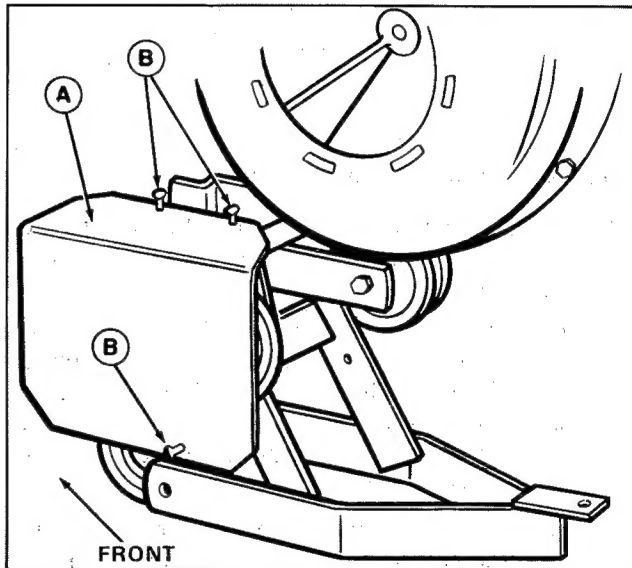
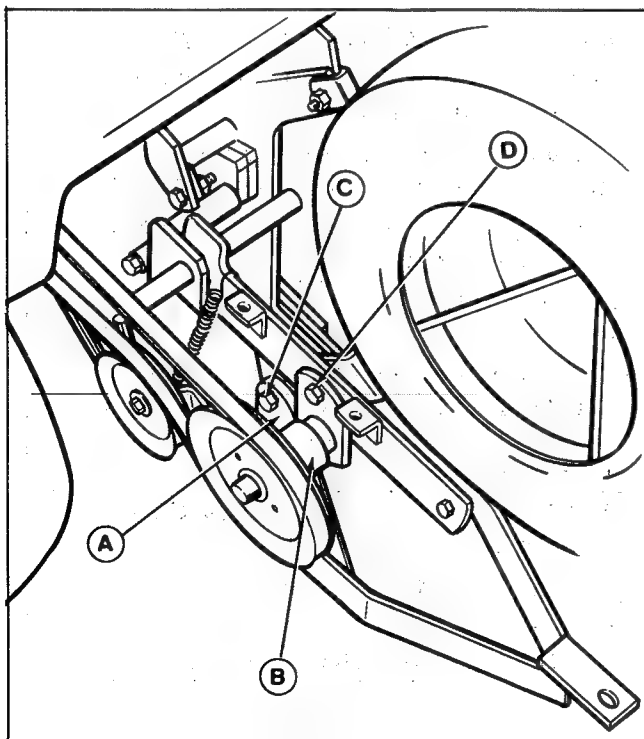
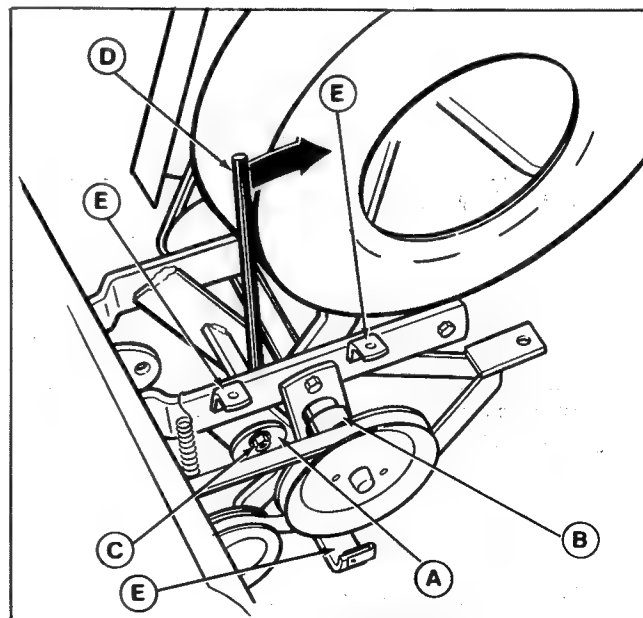

Figure 5. Shield Installed Left-Hand Side
Figure 11. Belt Adjustment
Figure 13. Moving Cross Shaft Back
3. Remove the shield (A, figure 5) by removing the three wing screws (if installed).
5. Install the pulley shield (A, figure 5) to left side as shown in figure 5 with the three wing screws. (The three shield brackets are shown in figure 13).
3. Remove vacuum collector drive belt from tractor PTO pulley. To loosen tension on the belt, it can be slipped off the idler pulley. If necessary, remove the shield (A, figure 5) for clearance. Reinstall the shield and three wing screws to avoid loss.
Early model vacuum collectors do not have the eccentric washer (A, figure 11) which makes belt adjustment possible.
To gain access for adjustment, remove the shield (A, figure 5) by removing the three wing screws. Be sure to reinstall the shield after completing the adjustment.
Loosen the two cross shaft screws (D, figure 11). (There is one screw on each side.) Loosen the nut (C) just enough so that the eccentric washer (A) can be rotated. The eccentric washer can be rotated by tapping the edge with a hammer.
To increase the measurement, use a crowbar as a lever (figure 13) to rotate cross shaft toward rear. While holding the cross shaft in position, rotate the washer (A) until it meets the cross shaft then tighten the nut (C). Recheck the measurement and readjust if necessary.
When adjustment is correct, tighten the two cross shaft screws (D, figure 11). Reinstall the shield (A, figure 5). The shield brackets are shown in figure 13.